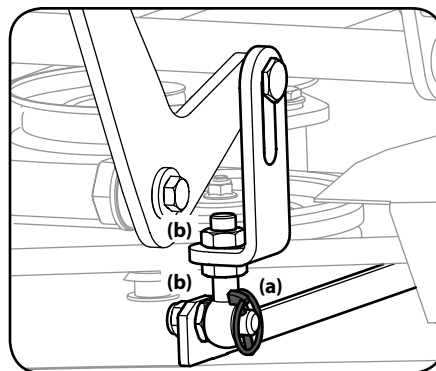

Figure 4-7
- Adjust the eyebolt (a) at the left front of the deck so that the blade-to-ground height at the right outside blade tip matches that of the left outside blade tip. This is done by loosening the jam nuts (b) on the eyebolt (a) and tightening the upper jam nut (b) to raise the deck and loosening the jam nut (b) to lower the deck. The right outer blade tip height is fixed by the right, front eyebolt (a) so you must adjust the left outer tip to match it. See Figure 4-7.
- Loosen the jam nuts (b) at the rear left and right of the deck eyebolts (a). Refer to Figure 4-7.